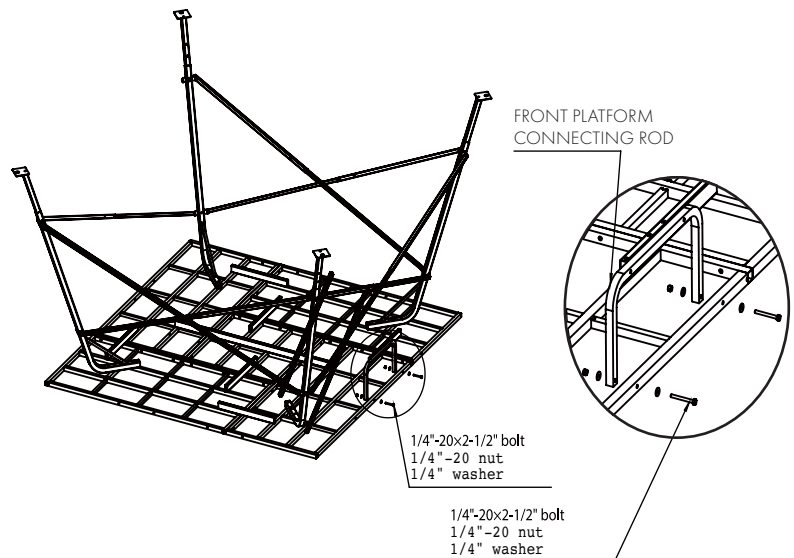

FIGURE 8
Attach the **FRONT PLATFORM CONNECTING ROD (#10)** to the assembled platform by using (2) 1/4"-20 x 2-1/2" bolts, (2) 1/4" lock nuts and (4) 1/4" flat washers (Figure 8). **Be sure to not over tighten.**